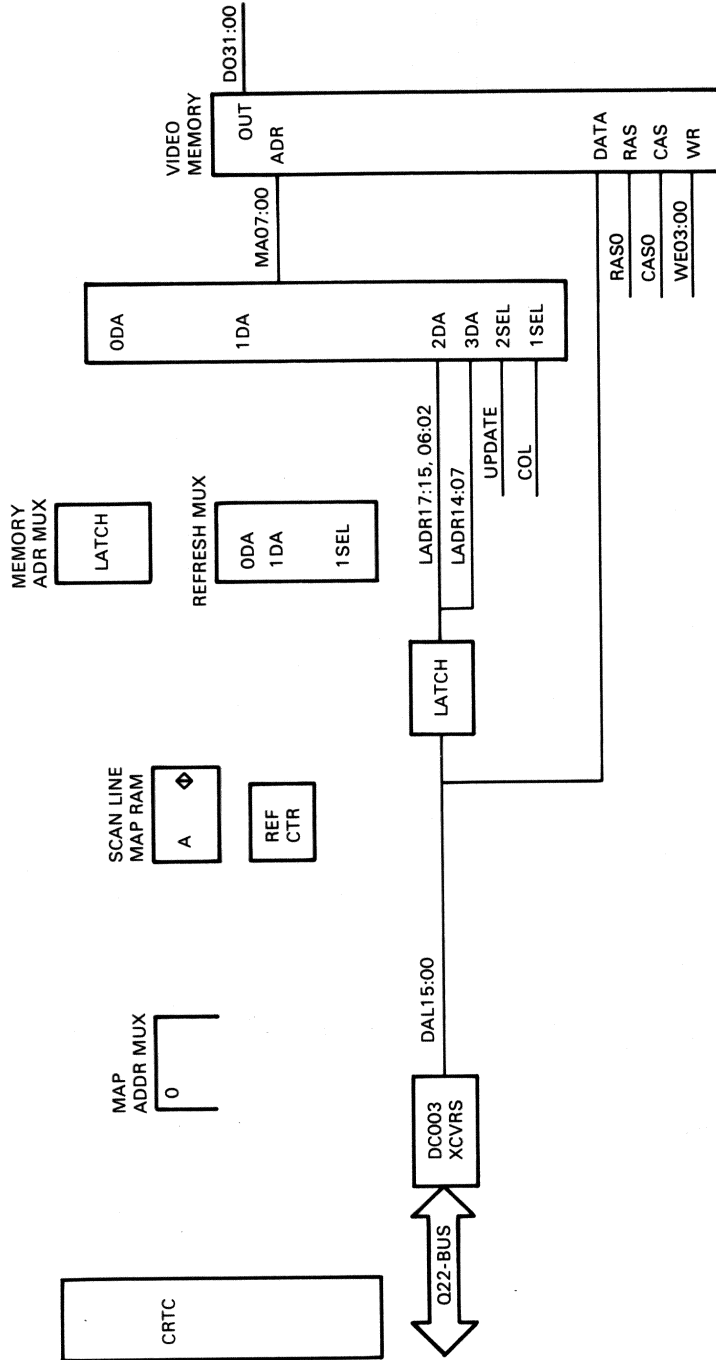

Figure C-10 Video Memory Write (Update)
C.1.5.2 Video Memory (Update Memory) – As Figure C-10 shows, video memory is addressed by eight lines from the memory address mux (multiplexer). These lines are multiplexed, 8-bit, row and column addresses. The row and column addresses are latched in memory at the appropriate time by RAS and CAS (row address strobe and column address strobe) inputs, providing a 16-bit memory address.